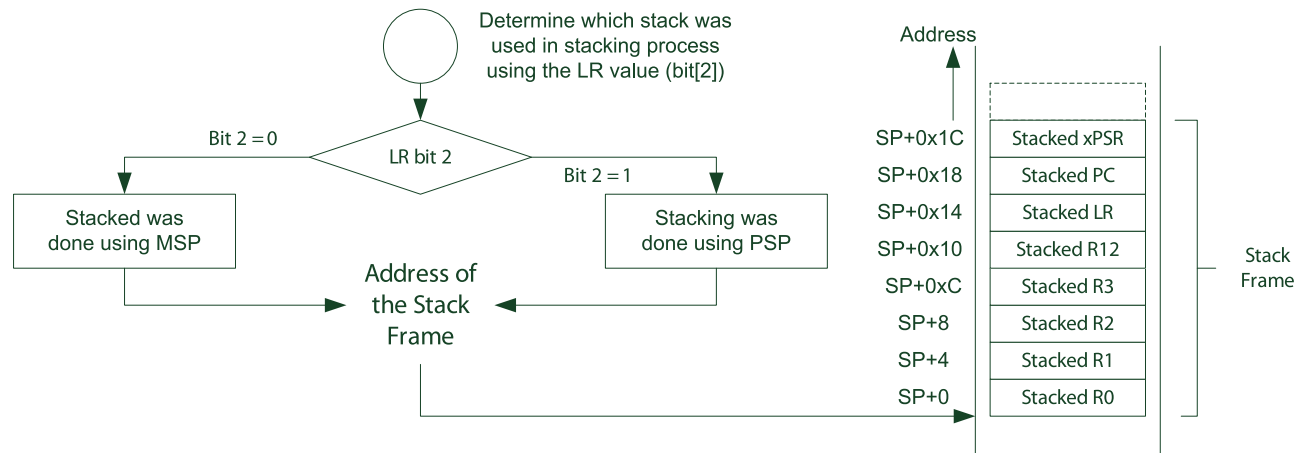

FIGURE 12.4
First, we need to determine which stack pointer was being used when the fault occurred. In the majority of the applications without an OS, only the Main Stack Pointer (MSP) would be used. However, if the application uses PSP, we need to determine the SP used by checking bit 2 of the Link Register (LR), as shown in Figure 12.4.